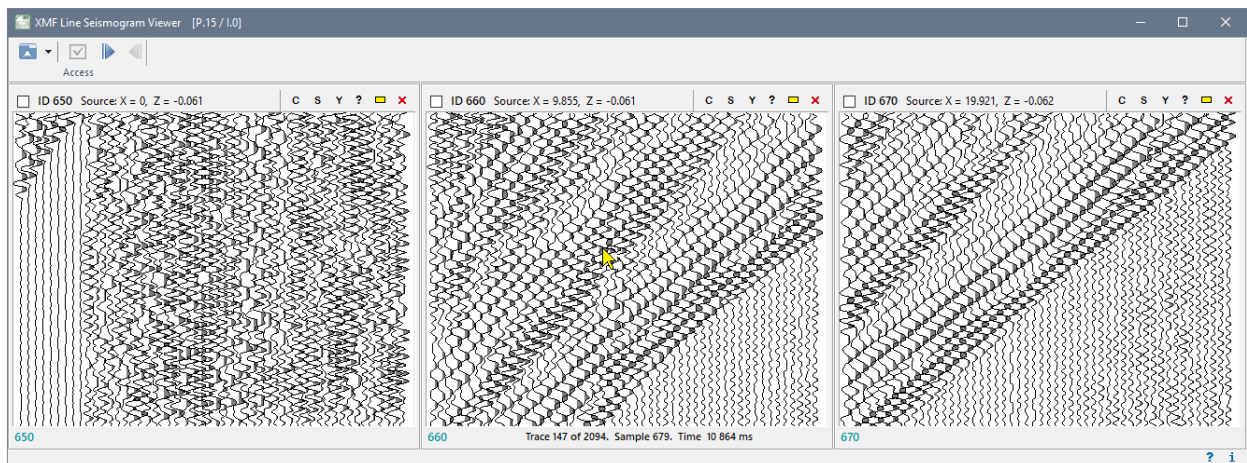

Fig. 1. Line Seismogram Viewer.
The main window of Line Seismogram Viewer (LSV) may look like on fig. 1.
In a regular LSV mode, only the first section of the module's tool bar is visible. It is called the *access bar* and contains four buttons (fig. 1). The first button, when clicked on its icon, drops down the access menu with commands of opening seismograms. The first four menu commands are discussed in this section.
1. Open seismogram. The command displays a dialog with a list of seismogram IDs (fig. 1). After the user selects a seismogram, LSV adds (or, to secure the order, inserts) a new frame with the initial seismogram view in it. If there is no place for a new frame, the command is disabled. To open a new file, one of the existing frames must be closed. It is only this command that appends *the recent file list*. It is dropped down, if the user clicks on the small arrow of the first button.